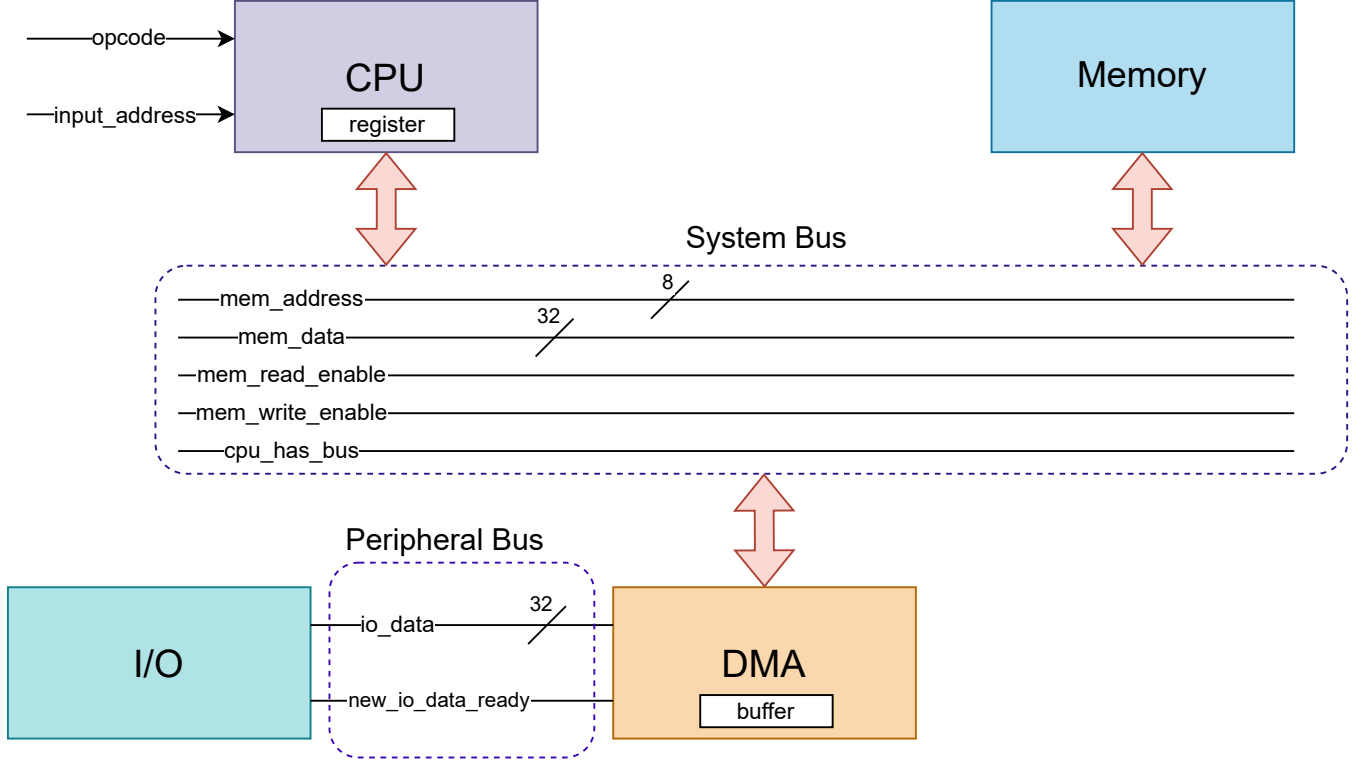

Figure 1: General system architecture.
Figure 1 illustrates the general architecture of our system, along with the bus structure. The system contains four main modules (CPU, Memory, I/O, and DMA) that are connected by two buses: (1) System Bus, which connects Memory, CPU, and DMA; and (2) Peripheral Bus, which connects the I/O module to DMA.
Code Snippet 3 shows the Verilog code for the CPU module. As shown in Figure 1, the CPU module gets `opcode` (2 bits) and `input_address` (8 bits) as input. These inputs determine the instruction that the CPU has to execute and are used later in the testbench. The CPU is connected to the system bus (described in Table 1) using its ports. The `mem_data` port is defined as `inout` to enable both `LOAD` and `STORE` instructions to use the same data channel. In addition, the CPU has an internal 32-bit register (line 11) to enable load/store operations.